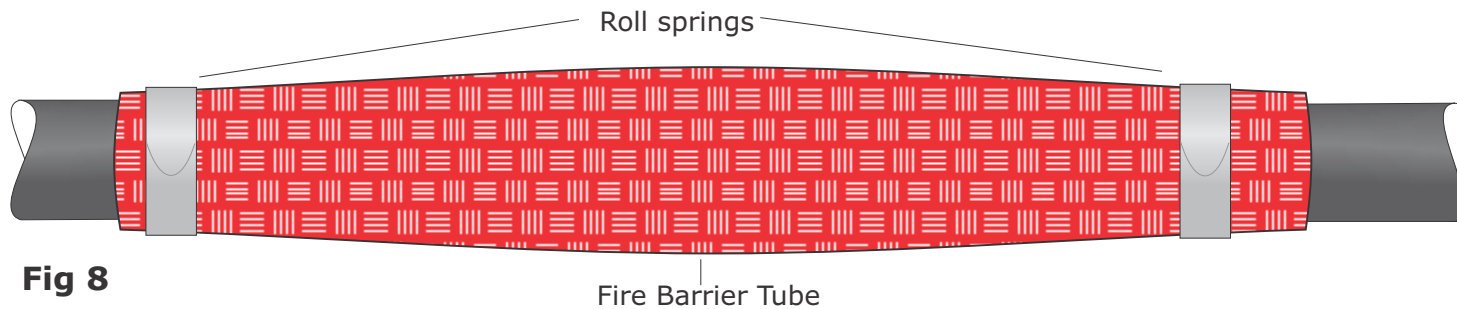

Fig 8
10. If Joint type SPA NHF is supplied, this incorporates a fire barrier tube. Joint type SPA NH is supplied without it. Position the red silicone coated fire barrier tube across the joint gap so that it overlaps equally distant at both sides. Secure at each side with a stainless steel roll spring as shown in Fig 8.